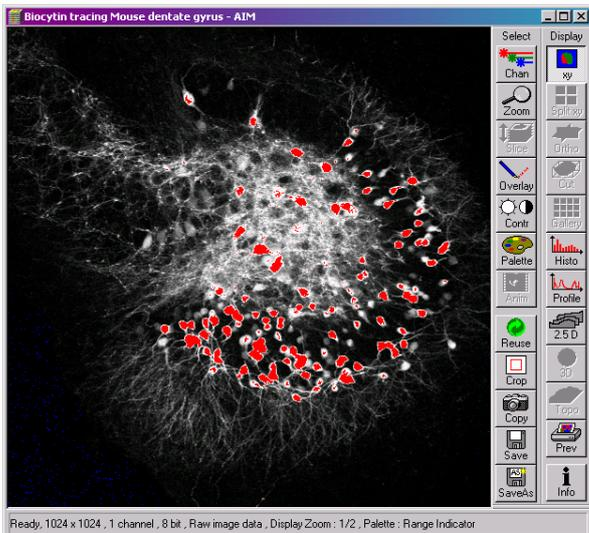

Fig. 29 Image window
- Select **Palette** in the **Image** window of the scanned image (Fig. 29).
The scanned image appears in a false-color presentation (Fig. 29).